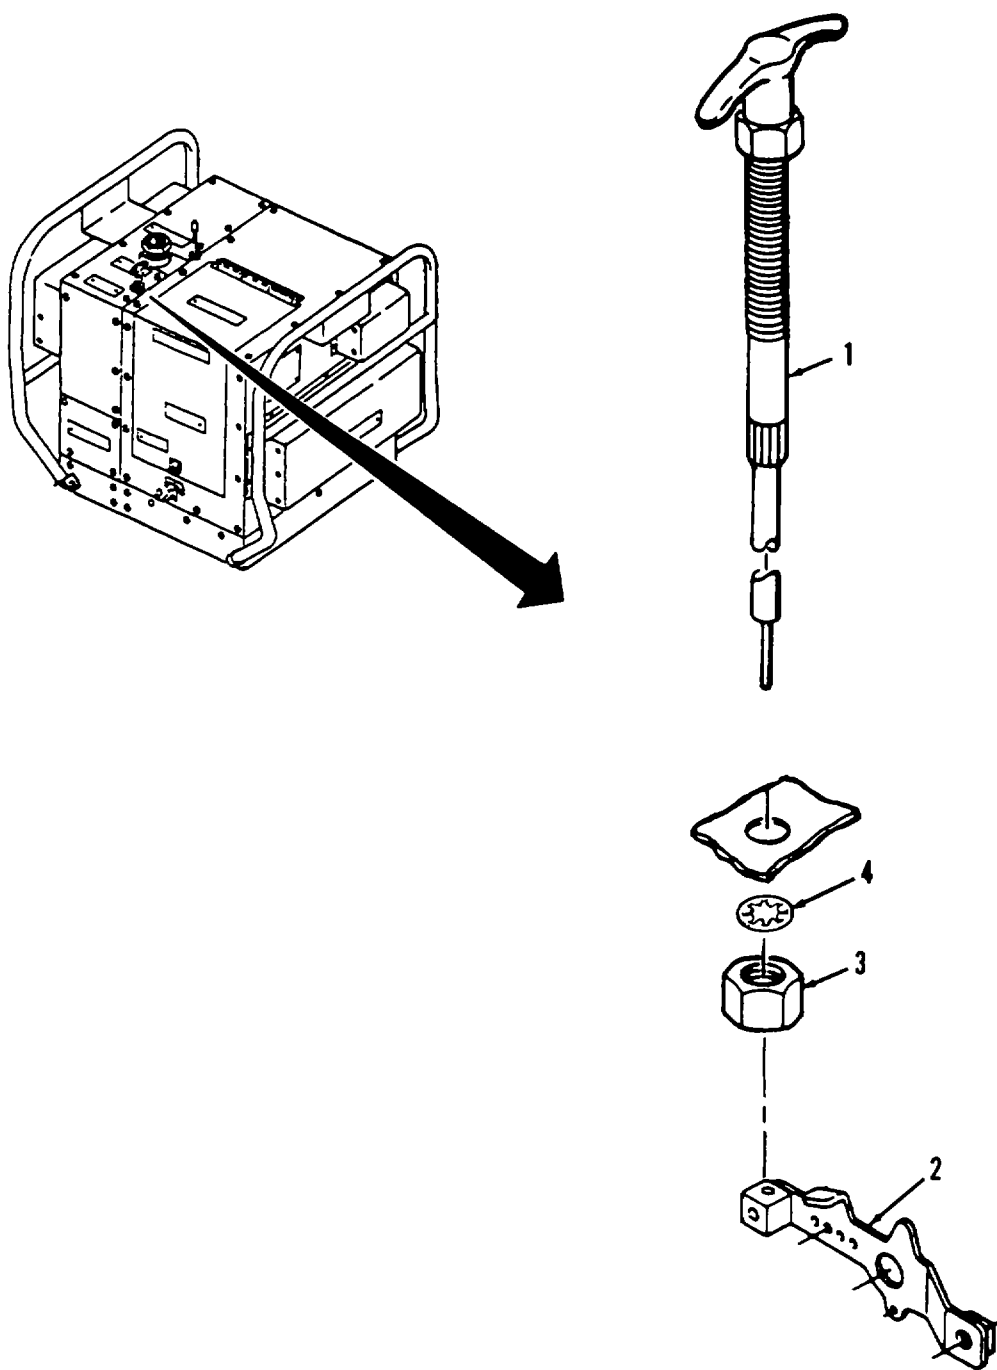

Figure 4-4. Control Assembly Replacement.
a. Removal (Refer to Figure 4-4).
- (1) Disconnect end of control assembly (1) from regulator handle (2) on engine.
- (2) Loosen nut (3) and slide nut and washer (4) down the length of the control assembly (1) cable and remove nut and washer.
- (3) Remove control assembly (1) through top of unit.